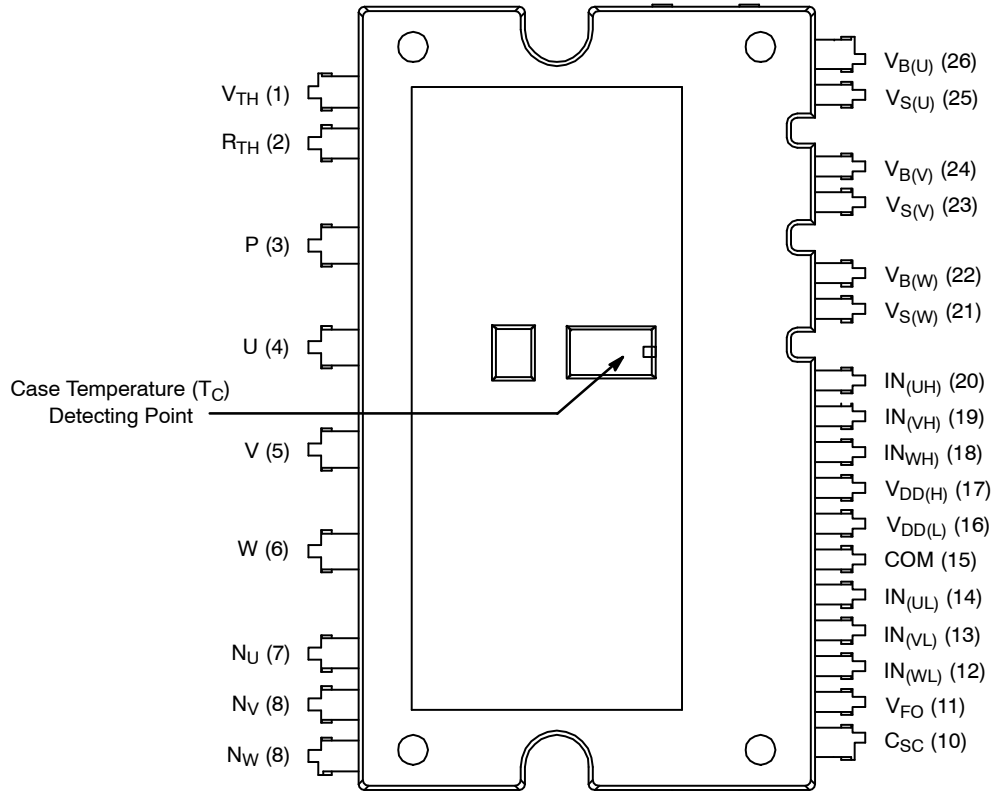

Figure 1. Pin Configuration – Top View
| T_C | Module Case Operation Temperature | See Figure 1 | -40 ~ 125 | $^\circ\text{C}$ |
5. For the measurement point of case temperature (T_C), please refer to Figure 1.